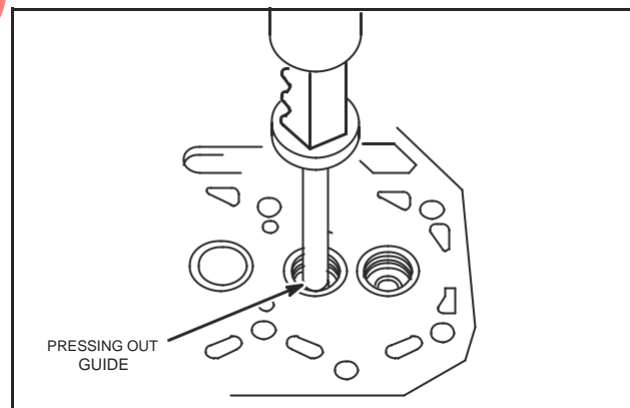

Fig. 18 – Remove Valve Guide Bushing
2. Remove valve guide bushing if required, Fig. 18.